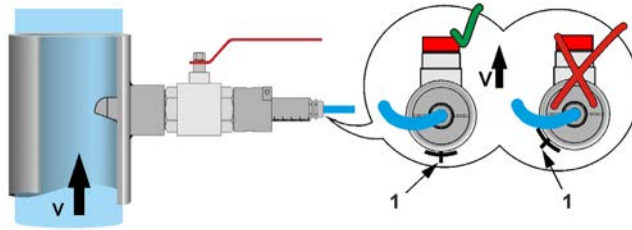

Fig. 10-45 Aligning the pipe sensor against the direction of flow
6. Align the pipe sensor with the centre axis (Fig. 10-45 Pos. 1) of the scale (Fig. 10-40 Pos. 9) against the direction of flow as shown in the figure below: Centre axis of the scale vertically against the direction of flow. Put on the clamping screws (Fig. 10-40 Pos. 8).